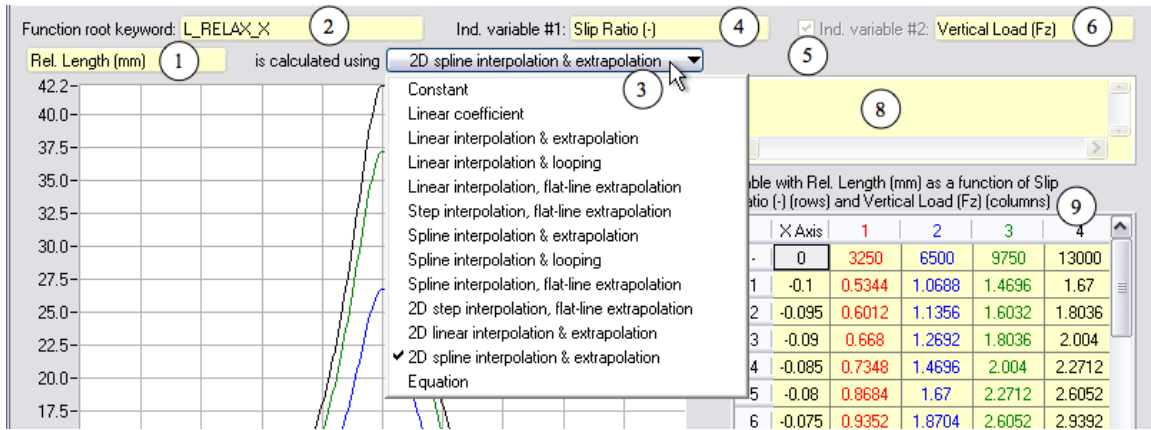

Figure 4. Appearance of screen when 2D calculation method is selected.
- ③ Drop-down list of calculation methods. Use this control to select the method for calculating the output variable ①. This selection also affects the appearance of the screen, as is the case with other screens with tabular data (Figure 4).
3. If a 2D interpolation method is chosen (Figure 4), then a single table (9) is shown for entering columns and rows and multiple plots are shown (one for each value of the secondary independent variable (6)). In this case, the checkbox for a second variable is automatically checked and the control is dimmed (5). (The control is dimmed because the choice of a 2D method requires a second independent variable.) All settings for handling the sensitivity to the second independent variable with a separate function are hidden because the 2D table covers the influence of the second variable.
- (9) Numerical values used to create a 1D or 2D table (based on the selected calculation method (3)). If it is a 1D table, then values of the primary independent variable go in column 1 and values of the dependent variable in column 2. If it is a 2D table, the top row has values of the secondary independent variable (column variable), the first column has values of the primary independent variable (row variable), and the rest of the cells have values of the dependent variable.
This table has the same behavior as the table used in most screens that are used to set up a configurable function. In this case, notice that the heading above the table uses the names provided as comments on the screen: (1), (4), and (6) (if a 2D interpolation method is chosen, as shown in Figure 4).